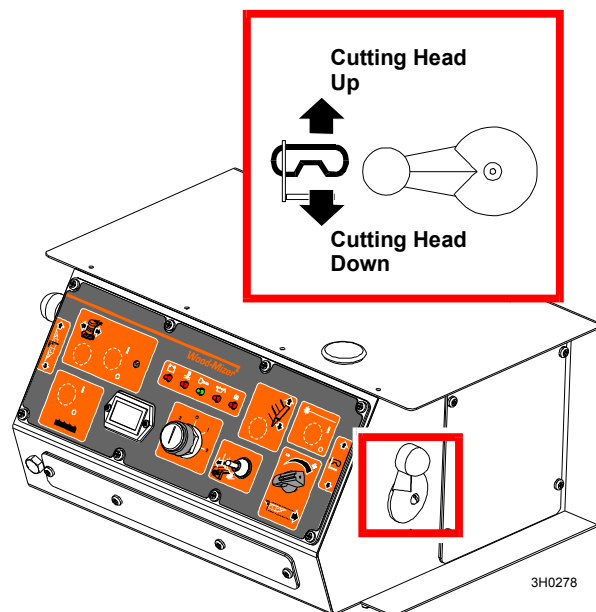

FIG. 2-10
**See Figure 2-10.** The up/down switch is located on the far right side of the control panel. Push the switch up to raise the cutting head; push the switch down to lower the cutting head. Hold the switch in position until the cutting head reaches the desired height, then release.